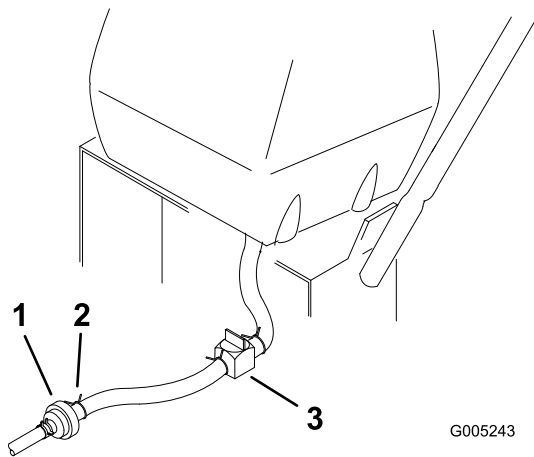

Figure 32
- Close the fuel shut-off valve at the fuel tank (Figure 32).
- Squeeze the ends of the hose clamp together and slide it up the fuel line away from fuel filter (Figure 32).
- Pull the fuel line off the fuel filter (Figure 32). Open the fuel shut-off valve and allow the gasoline to drain into a gas can or drain pan.
3. Close fuel shut-off valve at the fuel tank (Figure 32).
7. Open fuel shut-off valve at fuel tank (Figure 32).